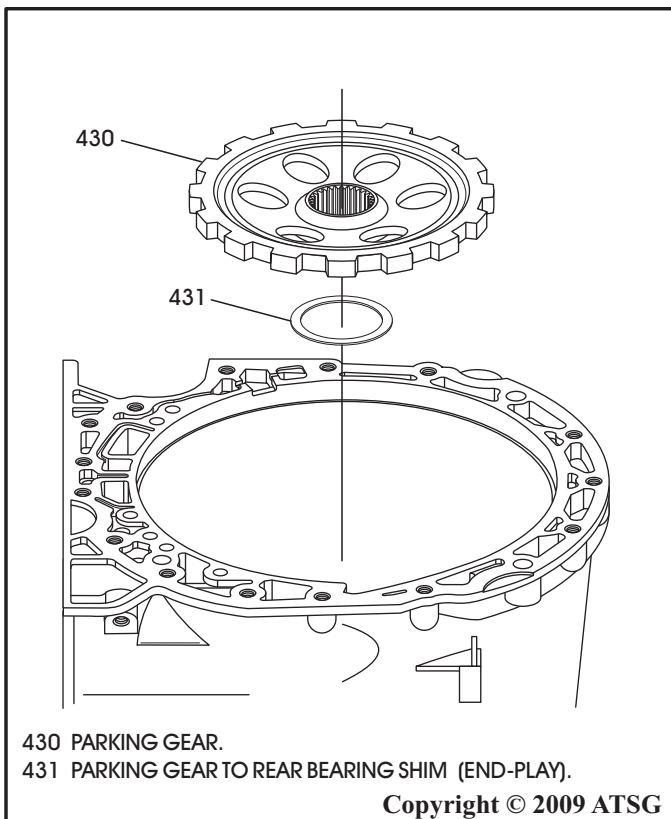

Figure 55
34. Remove the parking gear and transmission end play shim, as shown in Figure 55.